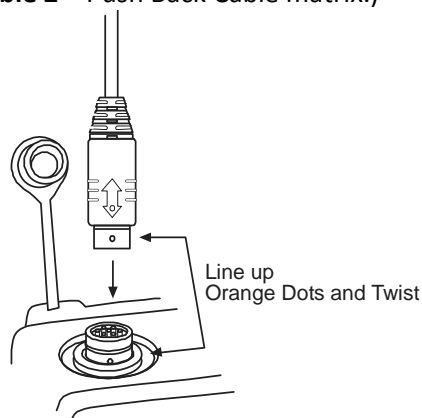

Figure 2: Push Back Cable Connection
- The U9920-GPB(EU) is designed for airport push back operations and can be connected to an aircraft intercom system. Once connected, up to four belt station [U9910-BSW(EU)] users can communicate to the pilot of the aircraft by pressing the PTT button on the belt station. A Push Back Cable is required between the U9920-GPB(EU) and the aircraft (see below: **Figure 2** – connection illustration, and **Table 2** – Push Back Cable matrix.)